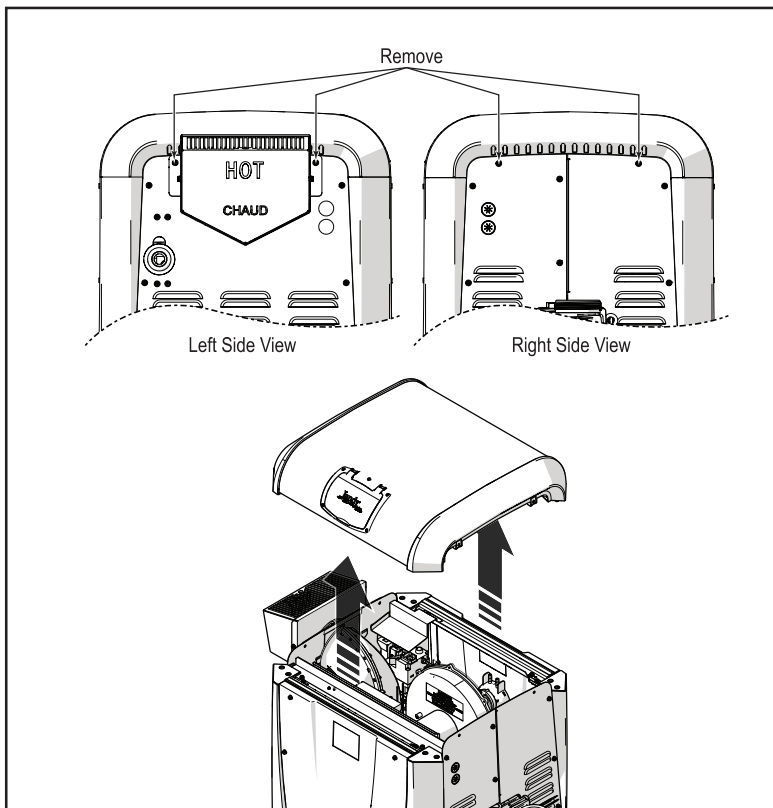

Figure 24. Remove Top Panel
6. Remove four (4) screws to take off the heater top panel (Figure 24). Take care not to damage or abrade any of the wiring.